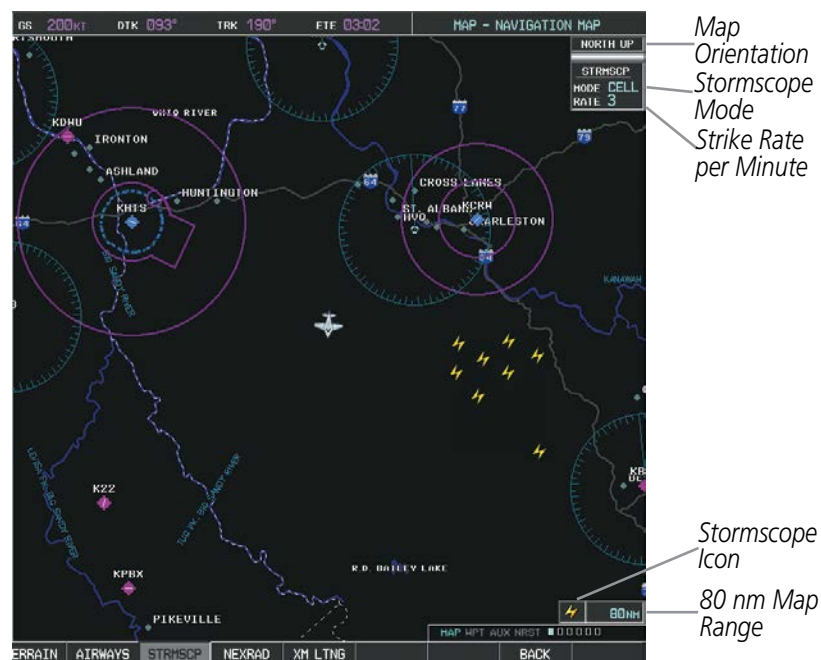

Figure 6-114 Navigation Map Page with Stormscope Lightning Data
- 7) Press the **FMS** Knob to return to the Navigation Map Page (Figure 6-114).
On the Navigation Map, cell mode identifies cells of lightning activity (Figure 6-114). Stormscope identifies clusters of electrical activity that indicate cells. Strike mode indicates the approximate location of lightning strikes.